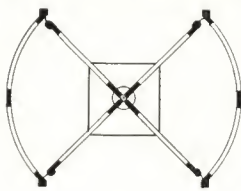

Fig. 1
3. Side view of same trolley shown in Figs. 1 and 2 above—showing how carriage is held in place by Arm No. T-H-4 and how carriage rests on channel iron track.